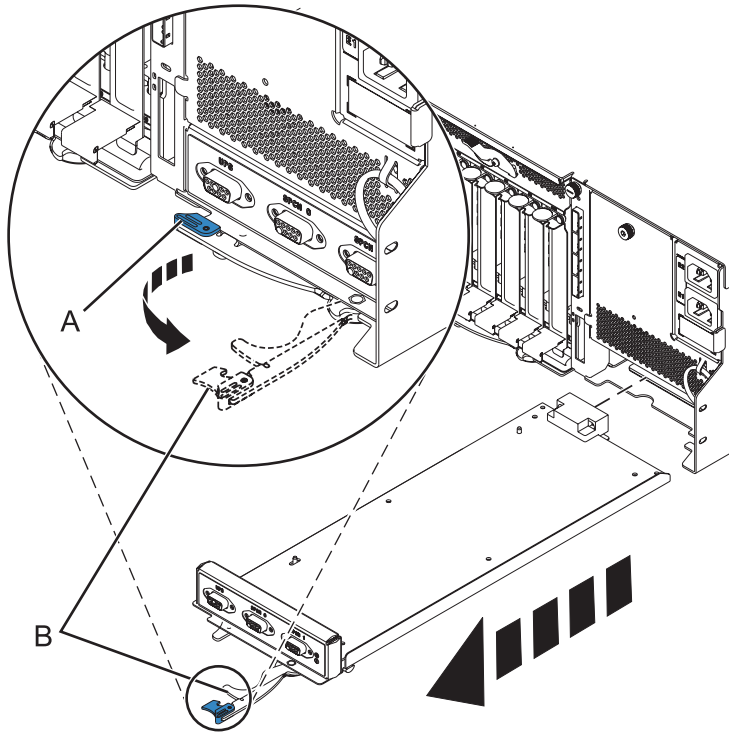

Figure 66. Remove the enclosure management controller
- b. Pinch the latch (A) to unlock the handle (B). See Figure 66 on page 83.